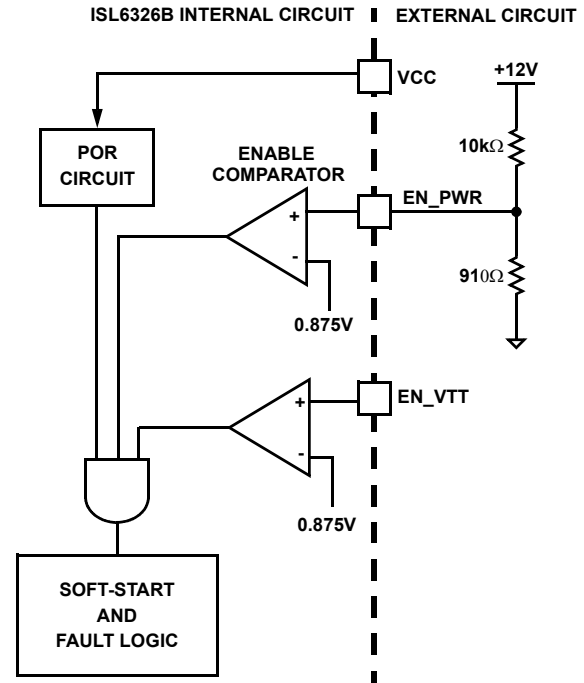

FIGURE 7. POWER SEQUENCING USING THRESHOLD-SENSITIVE ENABLE (EN) FUNCTION
2. The ISL6326B features an enable input (EN\_PWR) for power sequencing between the controller bias voltage and another voltage rail. The enable comparator holds the ISL6326B in shutdown until the voltage at EN\_PWR rises above 0.875V. The enable comparator has about 130mV of hysteresis to prevent bounce. It is important that the driver ICs reach their POR level before the ISL6326B becomes enabled. The schematic in Figure 7 demonstrates sequencing the ISL6326B with the ISL66xx family of Intersil MOSFET drivers, which require 12V bias.